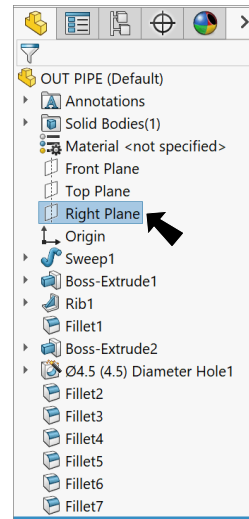

Fig. 53
Step 1. Click **Right Plane**  in the Feature Manager to select plane, **Fig. 53**.